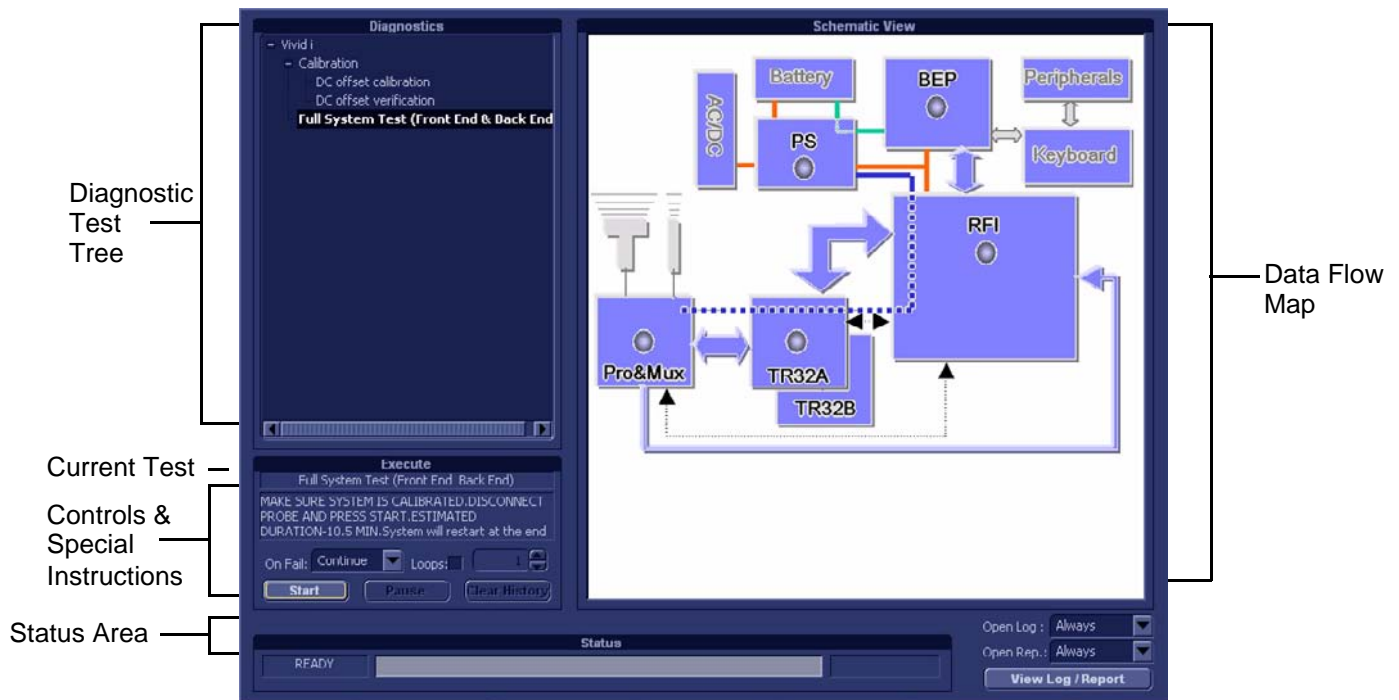
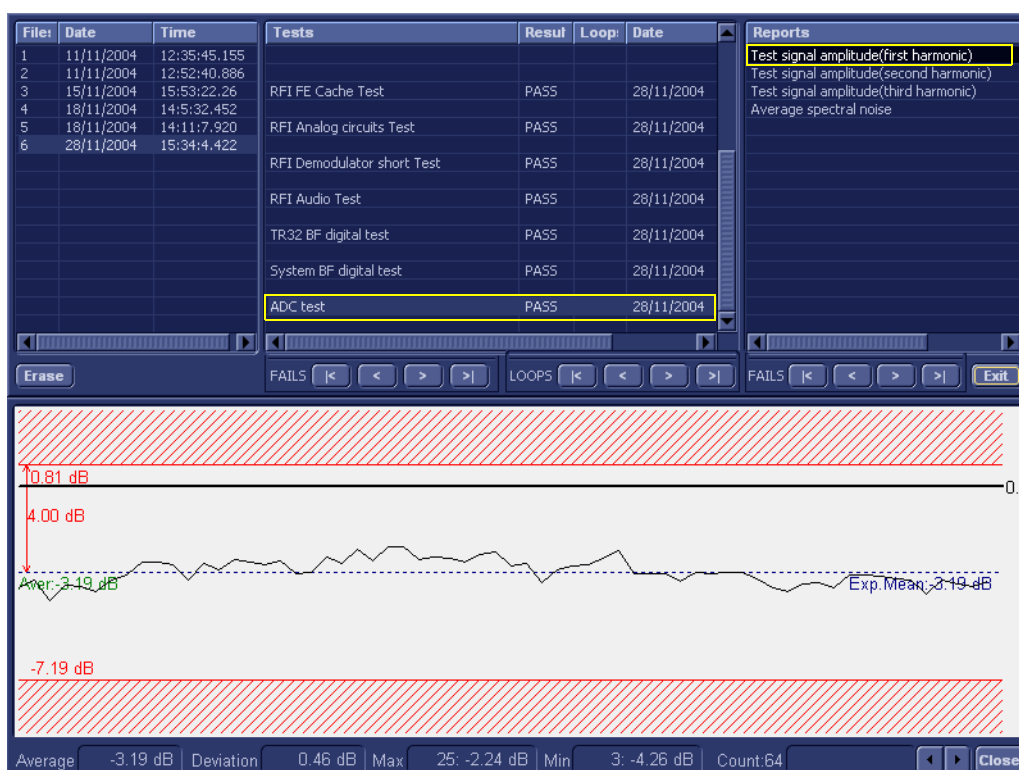

Figure 7-1 Diagnostic Test Window
Figure 7-2 View Log Dialog Box
The *Diagnostics Test Window* (Figure 7-1) comprises the following areas and menu options:
From the *Diagnostics Test Window* (Figure 7-1) the View Log button provides access to the test result information described below. This is shown in the View Log dialog box (see example in Figure 7-2 below) which is displayed in the *upper* right portion of the screen (over the Data Flow Map area).
In Figure 7-2 above, the selected report (Test signal amplitude, first harmonic) is displayed in the Report window. When there is more than one report listed, the first report is displayed (by default).
- In 2D-Mode, press **<ALT +Config>** on the alphanumeric keyboard. The *Diagnostic Test* window is displayed, as shown in (Figure 7-1).